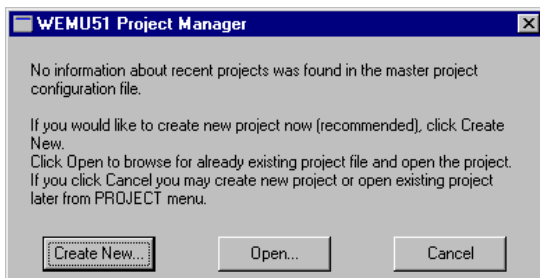

FIGURE 3 WEMU51 Project Manager dialog box..
5. Start WEMU51 by selecting the Windows Start menu and clicking **Programs | Signum Systems WEMU-51**. If you installed Chameleon WEMU51 for the first time, the **WEMU51 Project Manager** dialog box appears (Figure 3).
Create a new debug project to start working with your emulator. The fastest way to do so is to click the **Create New** button in the dialog box in Figure 3. This launches the **Project Creation Wizard**.